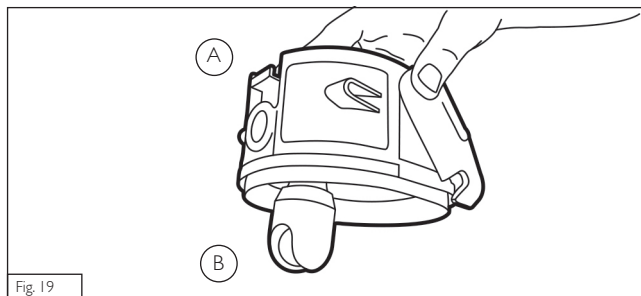

Fig. 19
2. Remove the sphere before performing the following cleaning instructions (fig. 19(B)).
6. The reusable secretion canister can also be autoclaved for 20 minutes at 121°C, in that case please remove the overflow protection in advance (fig. 19(B)).
7. After autoclaving, fix the overflow protection in the lid considering the orientation of the opening (fig. 19(B)).
8. Reinsert the sphere according to fig. 19.